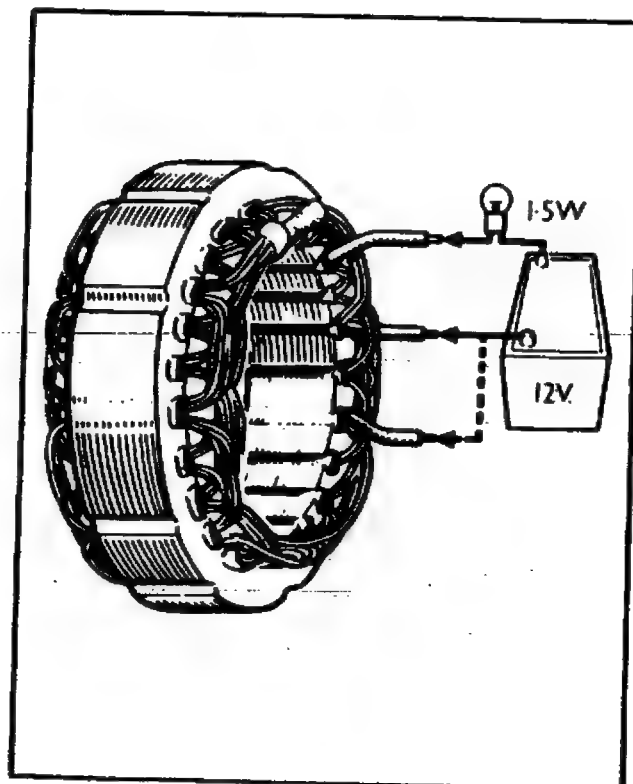

Fig. 26 — Stator Winding
1. Unsolder the three stator cables from the heat sink assembly, taking care not to overheat the diodes—(refer to "Heat Sink Replacement"). Check the continuity of the stator windings by first connecting any two of the three stator cables in series with a test lamp of not less than 36 watts and a 12-volt battery as shown in Fig. 26. Repeat the test, replacing one of the two cables by the third cable. Failure of the test lamp to light on either occasion means that part of the stator winding is open circuit and a replacement stator must be fitted.